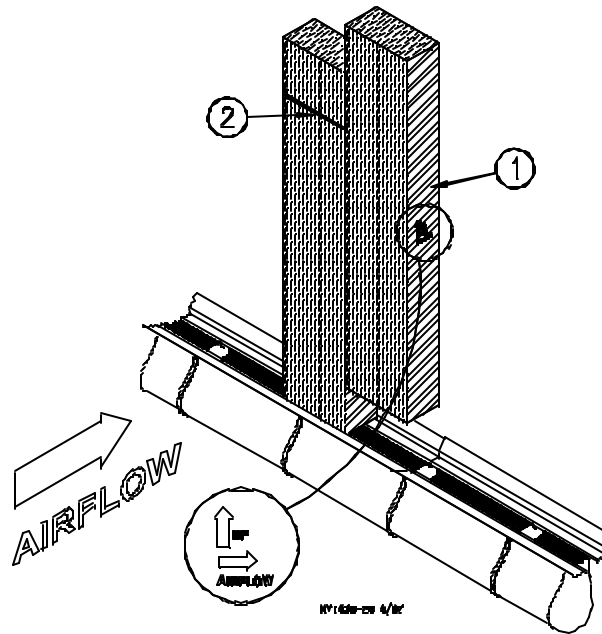
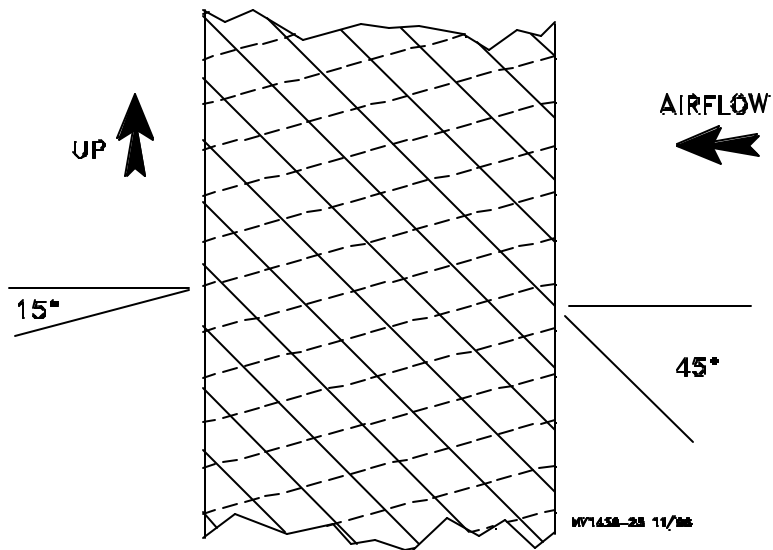

Figure 13. Pad Installation
Figure 14. Pad Orientation (cut-away view of side of Pad)
1. Set the Evaporative Cooling Pads on the Pad Supports. See **Figure 13**. The top of the Pads should be against the Splash Plate and directly below the Distribution Pipe.
If no stripe is present, refer to **Figure 14** to determine the proper pad orientation based on the direction of the pad flutes vs. direction of incoming air flow.
15. Check that Cooling Pads are installed correctly. See **Figure 13** and **Figure 14**.